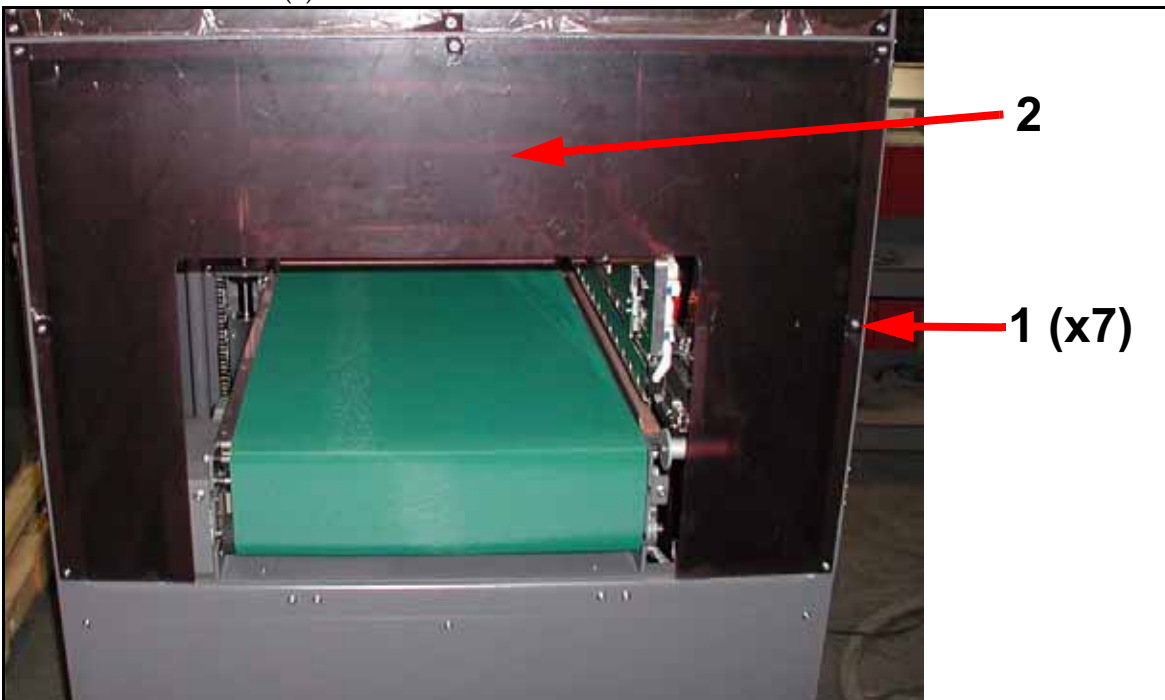

Figure 6-14. Rear Guard
- 1 Unscrew rear guard screws (1 in Figure 6-14) and remove rear guard (2).